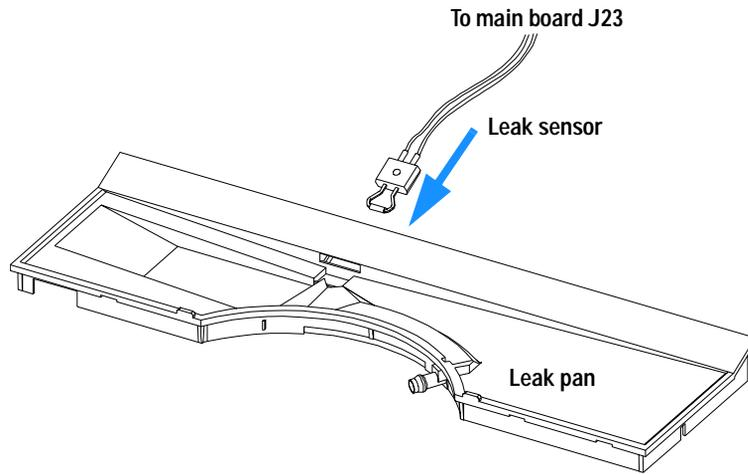

Figure 24 Exchanging the Leak Sensor
- 13 Place the new leak sensor into the leak pan, see Figure 24 and replace the pan. Make sure that the cable is located in the recess of the bottom metal plate.